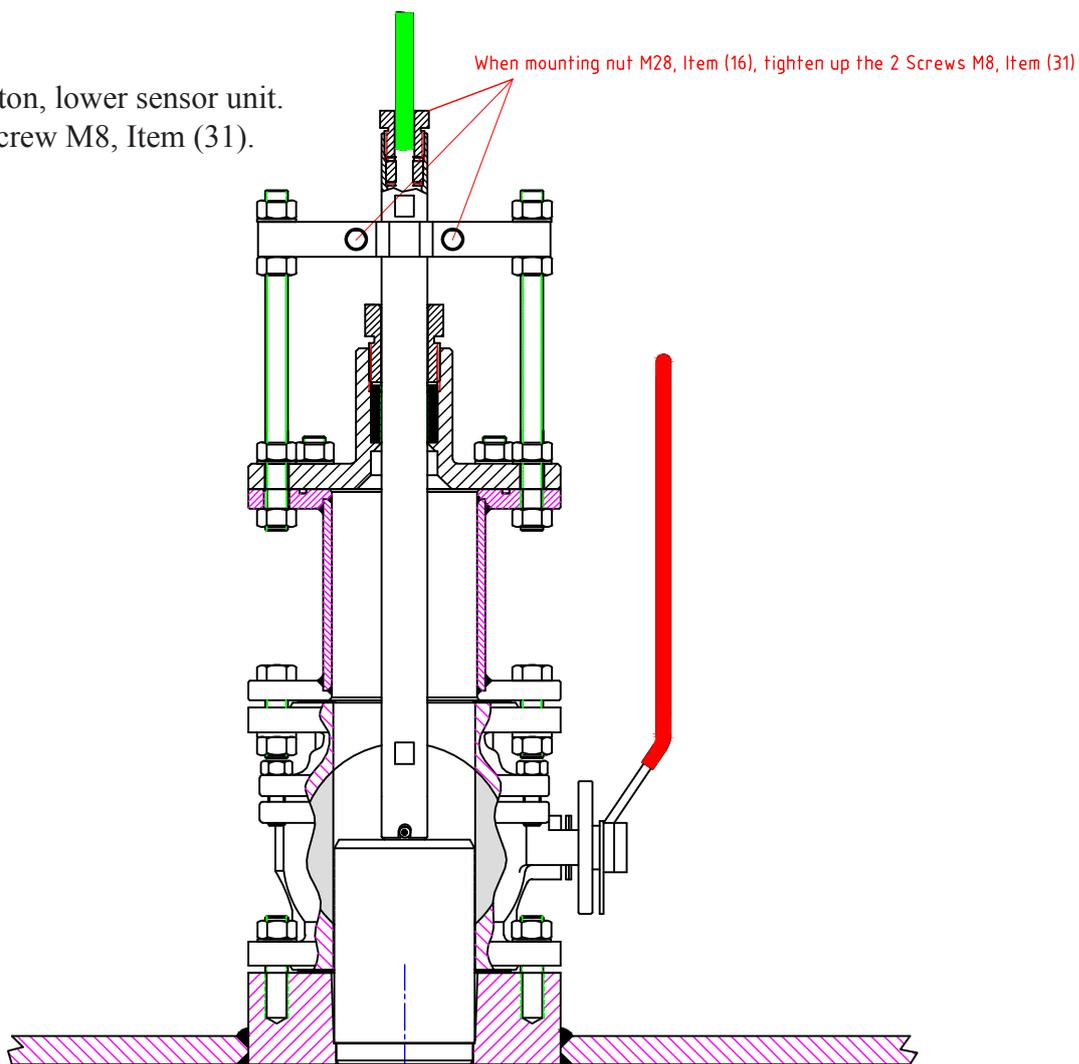

Figure 7.2 Lowering the sensor
- 2 x gasket, Item (12).
- Washer, Item (17).
- Nut M50, Item (13).
- 2 x M16 nuts, Item (28).
- Clamp Unit, Item (10).
- 2 x M16 nuts, Item (28) with spring washer, Item (29).
- Open Sea Valve, lower sensor unit and Extension Tube. (See figure 7.2 next page)